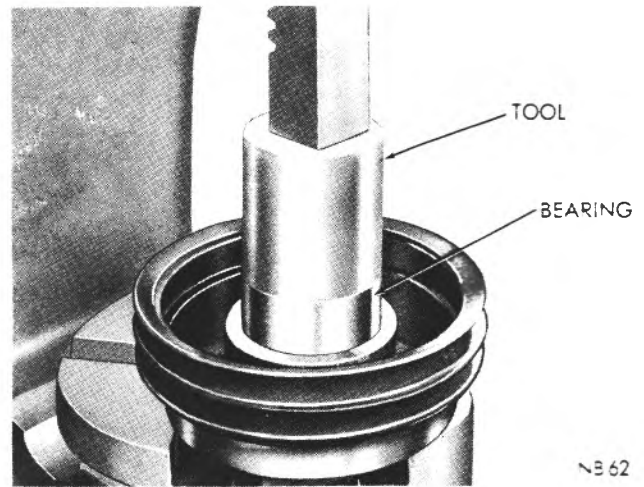

Fig. 32—Installing a New Bearing in the Pulley Assembly (Typical)
- (1) Install pulley assembly with pulley side up on an arbor press and insert a new bearing into the bore. Install Tool C-3807 against the bearing and press into position (Fig. 32).
- (2) Install pulley assembly with pulley side facing down on Tool C-3807.
- (3) Start drive hub into the inner bearing race, and press hub into position with an arbor press.
- (4) Install bearing snap ring and hub snap ring.